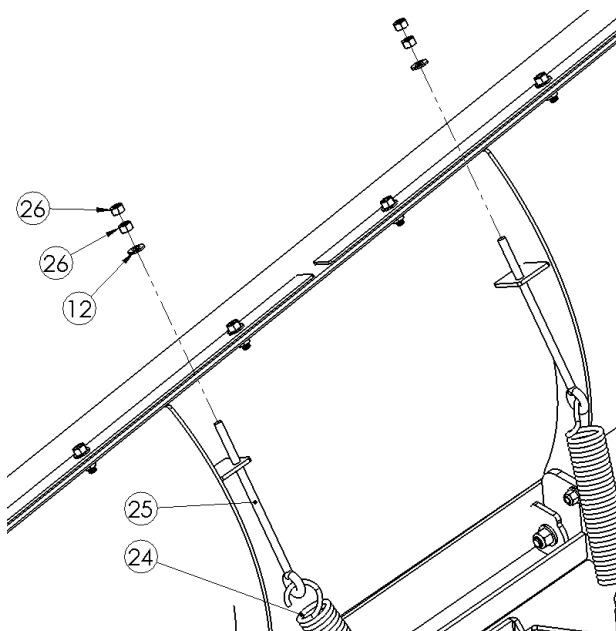

Figure 10
10) Attach the top end of the 10" Spring to the 3/8" Eye Bolt and then insert the threads of the 3/8" Eye Bolt through the mount plate welded to the Plow Blade. Secure the Eye Bolts using a 3/8" Flat Washer and two 3/8" Hex Nuts on each Eye Bolt. Alternate tightening the first 3/8" Hex Nut until the 10" Springs are taugth. Tighten the second 3/8" Hex Nut to the First to keep them from spinning backward. See Figure 10.